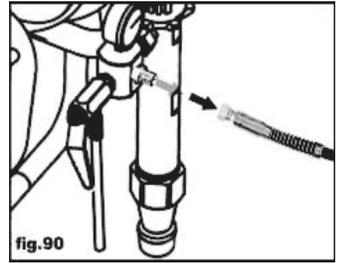

fig.90
-Remove paint hose if not already removed (fig.90)